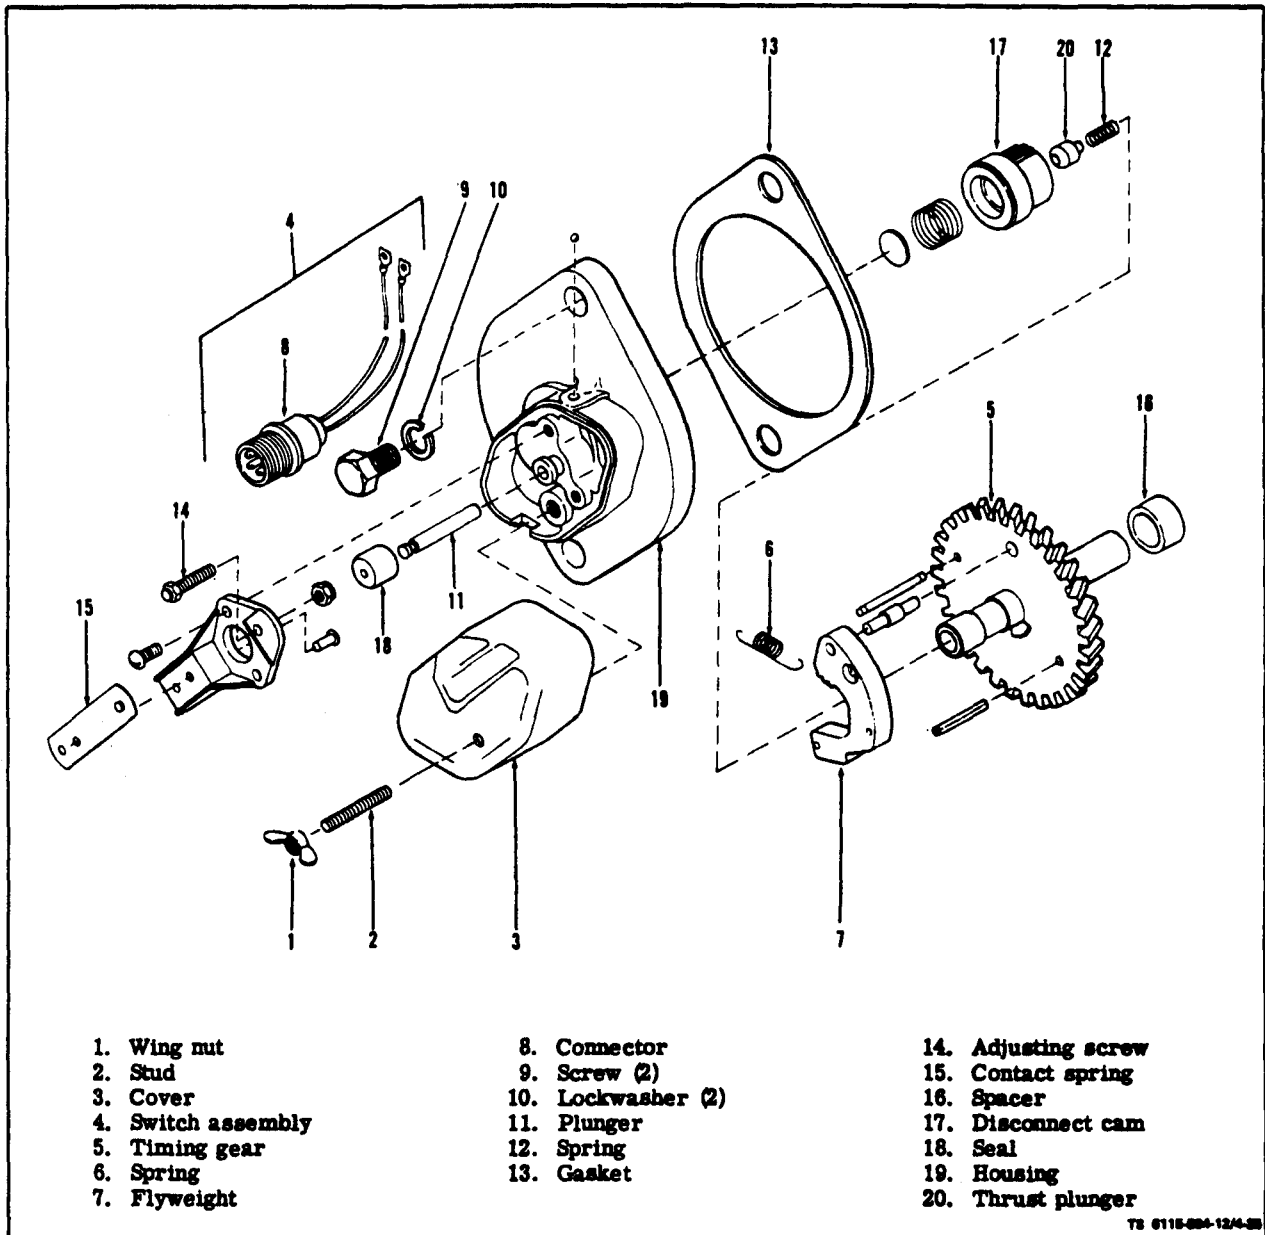
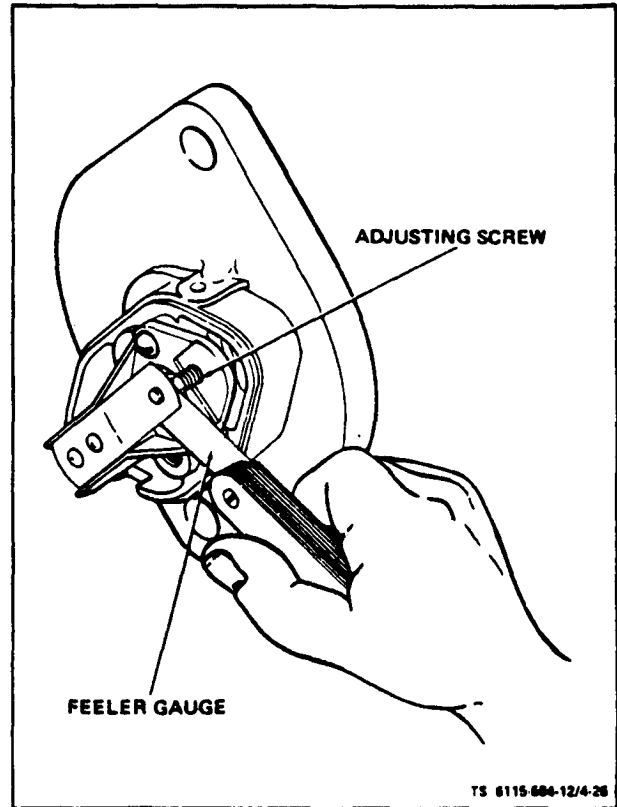

Figure 4-25. Starter Lockout Switch and Gear Assembly
Figure 4-26. Adjusting Starter Lockout Switch
a. Inspect (see figure 4-25). Disconnect negative battery cable. Remove wing nut (1) and cover (3) and inspect switch contact points between contact spring (15) and adjusting screw (14) for physical damage.
b. Test. With engine off, disconnect switch at connector (8). Using an ohmmeter, test that there is
c. Remove. Disconnect switch lead from connector (8). Remove two screw (9) and lockwashers (10) attaching switch to engine back plate. Carefully remove switch taking care not to lose thrust plunger
(20) and spring (12). Slide gear (5) out through opening in engine back plate. Clean any gasket (13) material from switch and back plate.
e. Replace. Make certain spacer (16) is on shaft and slip timing gear (5) through opening in engine back plate. Make certain that shaft seats properly in gear cover and that gear teeth are properly meshed. Place thrust plunger (20) and spring (12) in gear shaft. Slide switch and gasket (13) over shaft and attach to engine back plate with two screws (9) and lockwashers (10). Use a new gasket (13) between switch and engine back plate. Reconnect electrical connector (8).
f. Adjust. With engine stopped, remove cover retaining wing nut (1) and remove cover (3). Turn adjusting screw (14) clockwise until points open. Turn adjusting screw counterclockwise until points just close (see figure 4-26). Start engine and disconnect switch from wiring harness at connector (8, figure 4-25). Adjust adjusting screw for a 0.040 point gap. Replace cover (3) and wing nut (1). Reconnect connector (8).
c. Remove. Remove blower housing. Disconnect oil cooler hoses at valve of oil filter adapter (see figure 4-29), Drain cooler into suitable container. Remove four machine screws (3, figure 4-26) and special U-shaped washers (4) attaching oil cooler (1) and oil cooler seal (1A) to mounting plate (2) and remove cooler (1). Remove and check hoses. Plug hose if not used immediately.